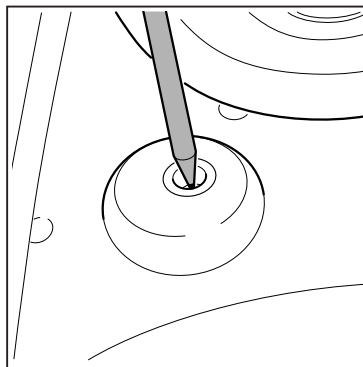

Fig 1.
2. Place small spacers in the top of the outside holes, and mark drilling positions as shown in Fig 1.